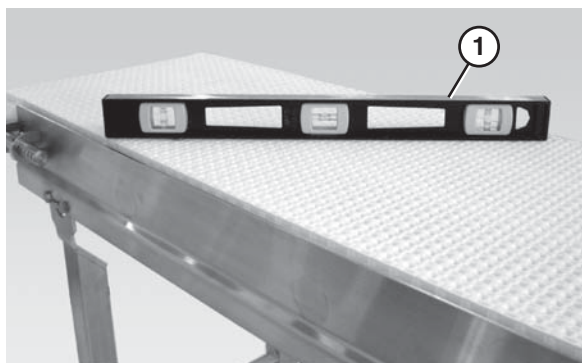

Figure 20
4. Use a level (**Figure 20, item 1**) to verify that both stand legs are the same height.